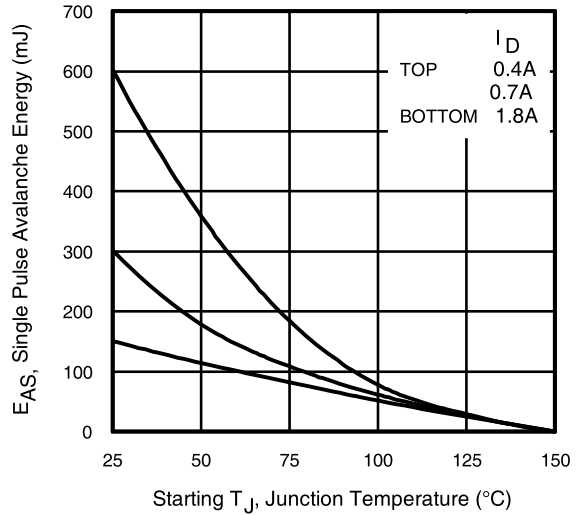

Fig 13. Maximum Avalanche Energy vs. Drain Current
- ② Starting $T_J = 25^\circ\text{C}$, $L = 93\text{mH}$, $R_G = 25\Omega$, $I_{AS} = 1.8A$. (See Figure 13).
- ③ $I_{SD} = 3.6A$, $di/dt \leq 520A/\mu s$, $V_{DD} V_{(BR)DSS}$, $T_J \leq 150^\circ\text{C}$.
④ Pulse width $\leq 300\mu s$; duty cycle $\leq 2\%$.
- ⑤ $C_{oss \text{ eff.}}$ is a fixed capacitance that gives the same charging time as C_{oss} while V_{DS} is rising from 0 to 80% V_{DSS} .